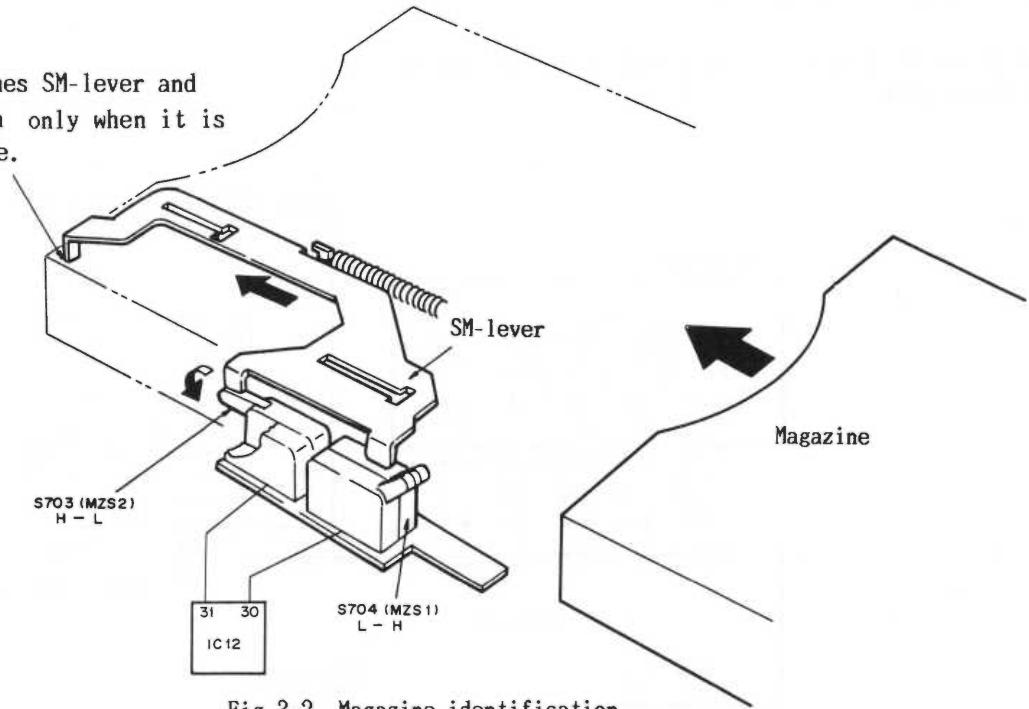

Fig.3-2 Magazine identification
Operation ③: Loading motor is reversed until S704 (Mzs1) and S703 (Mzs2) (see magazine identifier in Fig.3-2) are switched to H and L respectively (indicating absence of magazine). The loading motor is then rotated forward and stopped when S702 (LPS2) is switched to H.